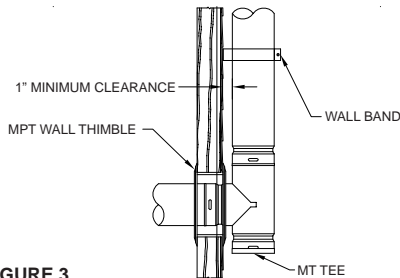

FIGURE 3
- Although it is not a preferred practice, there may be installations where B-Vent must run vertically-exterior to the building-and wall support is needed. A wall band (MH) or (MWB) is used by placing around the B-Vent, then fastening to the wall. Using a wall band assures that the clearance to combustibles is maintained (See **FIGURE 3**).